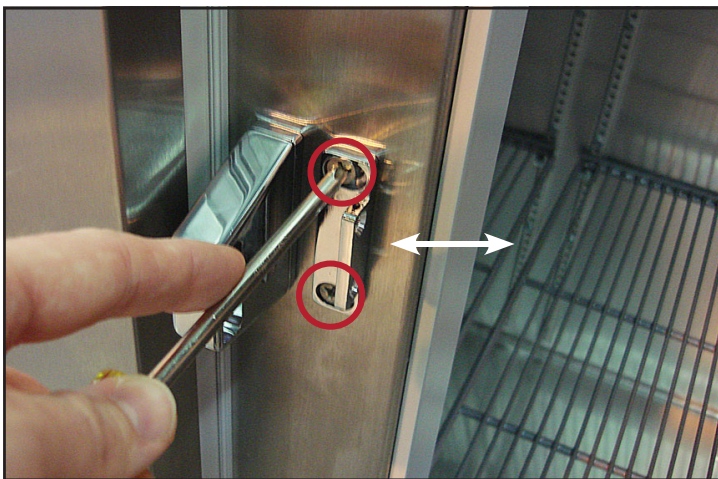

Fig. 6. Lock the base screw locations. Adjust the lock base sideways
10. Loosen (DO NOT remove) the lock base screws. See fig. 6.